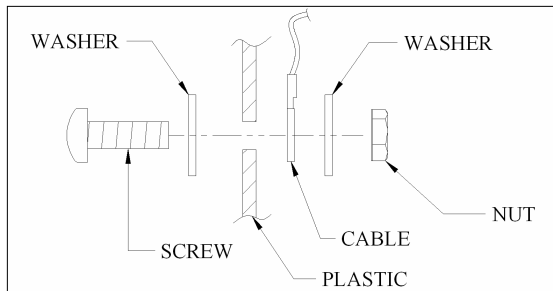

fig. 4
7. Install the cable to the Cargo Box and lid using the 2 metal screws, washers and nuts. (fig 4)